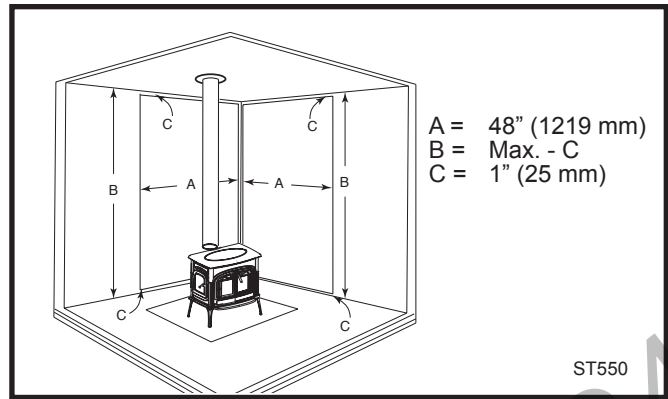

Fig. 15 Parallel installation, vertical chimney connector, two wall shields.
**Parallel installation, vertical chimney connector, two wall shields.** Fig. 15: Reduced clearances for both rear and side walls. Wall shields may meet at corner if desired. Shielding for connector is centered behind connector.